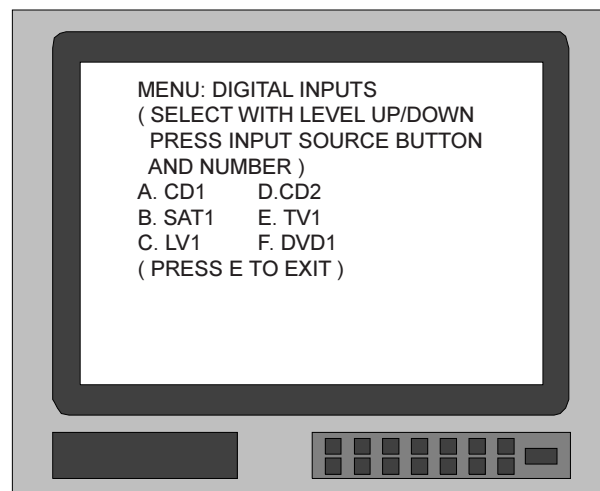

Figure 16
2. From the MAIN SYSTEM SETUP MENU, press 5 to access the DIGITAL INPUT MENU. Refer to Figure 16.